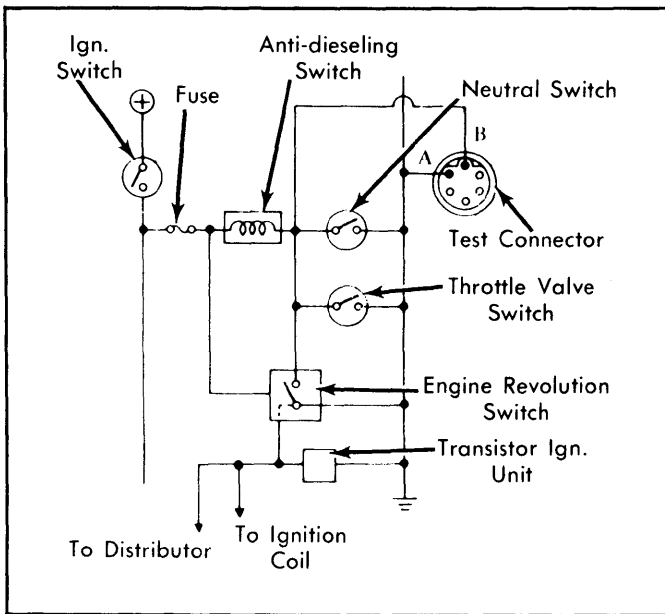
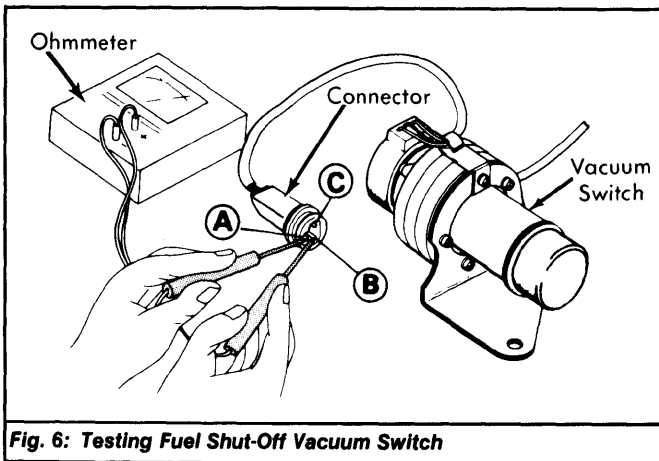

Fig. 3: 1978 B210 Fuel Shut-Off System Test
Fig. 6: Testing Fuel Shut-Off Vacuum Switch
3) Connect voltmeter to terminals "A" and "B" of function test connector. See Fig. 3. Depress clutch pedal and shift into high gear (Neutral on Auto. Trans.).
4) Increase engine speed to 3000 RPM, release throttle, and check voltage across terminals. If voltage is zero (0) during acceleration, and 12 volts during deceleration, fuel shut-off system is working properly.
6) Bring engine speed to 2500-3000 RPM and quickly release throttle. If voltmeter needle deflects from 12 to zero (0) volts, electrical circuit is working properly. If there is no deflection, either fuel shut-off vacuum switch or Neutral switch are not working properly.
7) To determine defective part, reconnect clutch pedal switch. Disconnect fuel shut-off vacuum switch connector. Connect ohmmeter to fuel shut-off vacuum switch. See Fig. 6.
4) On all models, increase engine speed to 2500-3000 RPM, then quickly close throttle valve. At this time, voltmeter needle should deflect from 12 to zero (0) volts. If not, either the fuel shut-off vacuum switch, Neutral switch (Man. Trans.), or inhibitor switch (Auto. Trans.) is defective.
5) To determine defective part, reconnect clutch pedal switch (Man. Trans.). Disconnect fuel shut-off vacuum switch. Connect an ohmmeter to vacuum switch terminals. See Fig. 6.